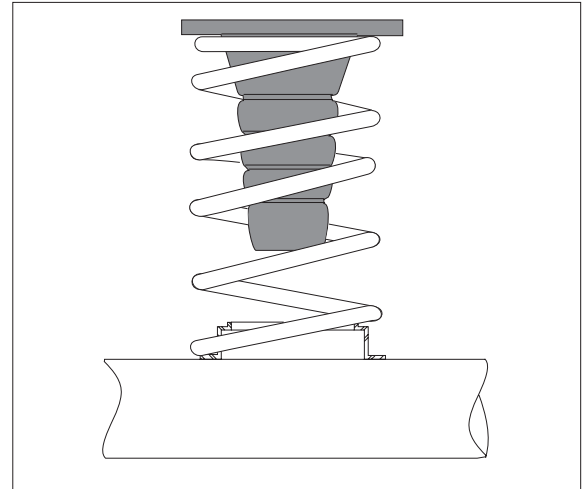
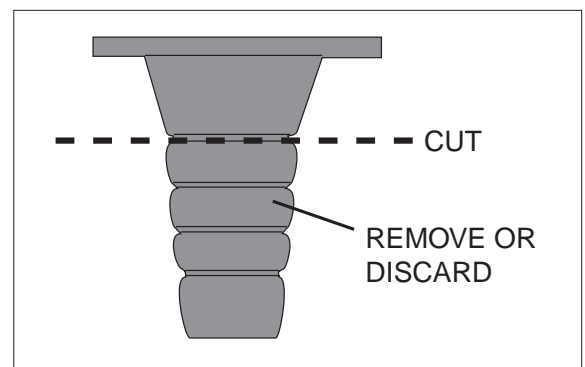

Figure 1
Figure 3
3. There is a large jounce bumper at the top of the coil spring (Figure 1). Trim the jounce bumper as specified in Figure 3.